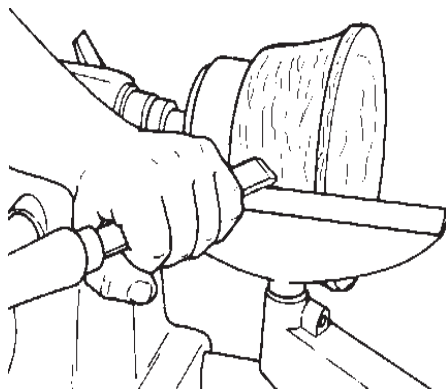

Figure C-52
3. Shaping the outside -- Make the beads and coves in the same manner as for spindle shaping. See Figure C-52. If the wood grain is perpendicular to the axis of rotation, do not shear, scrape.